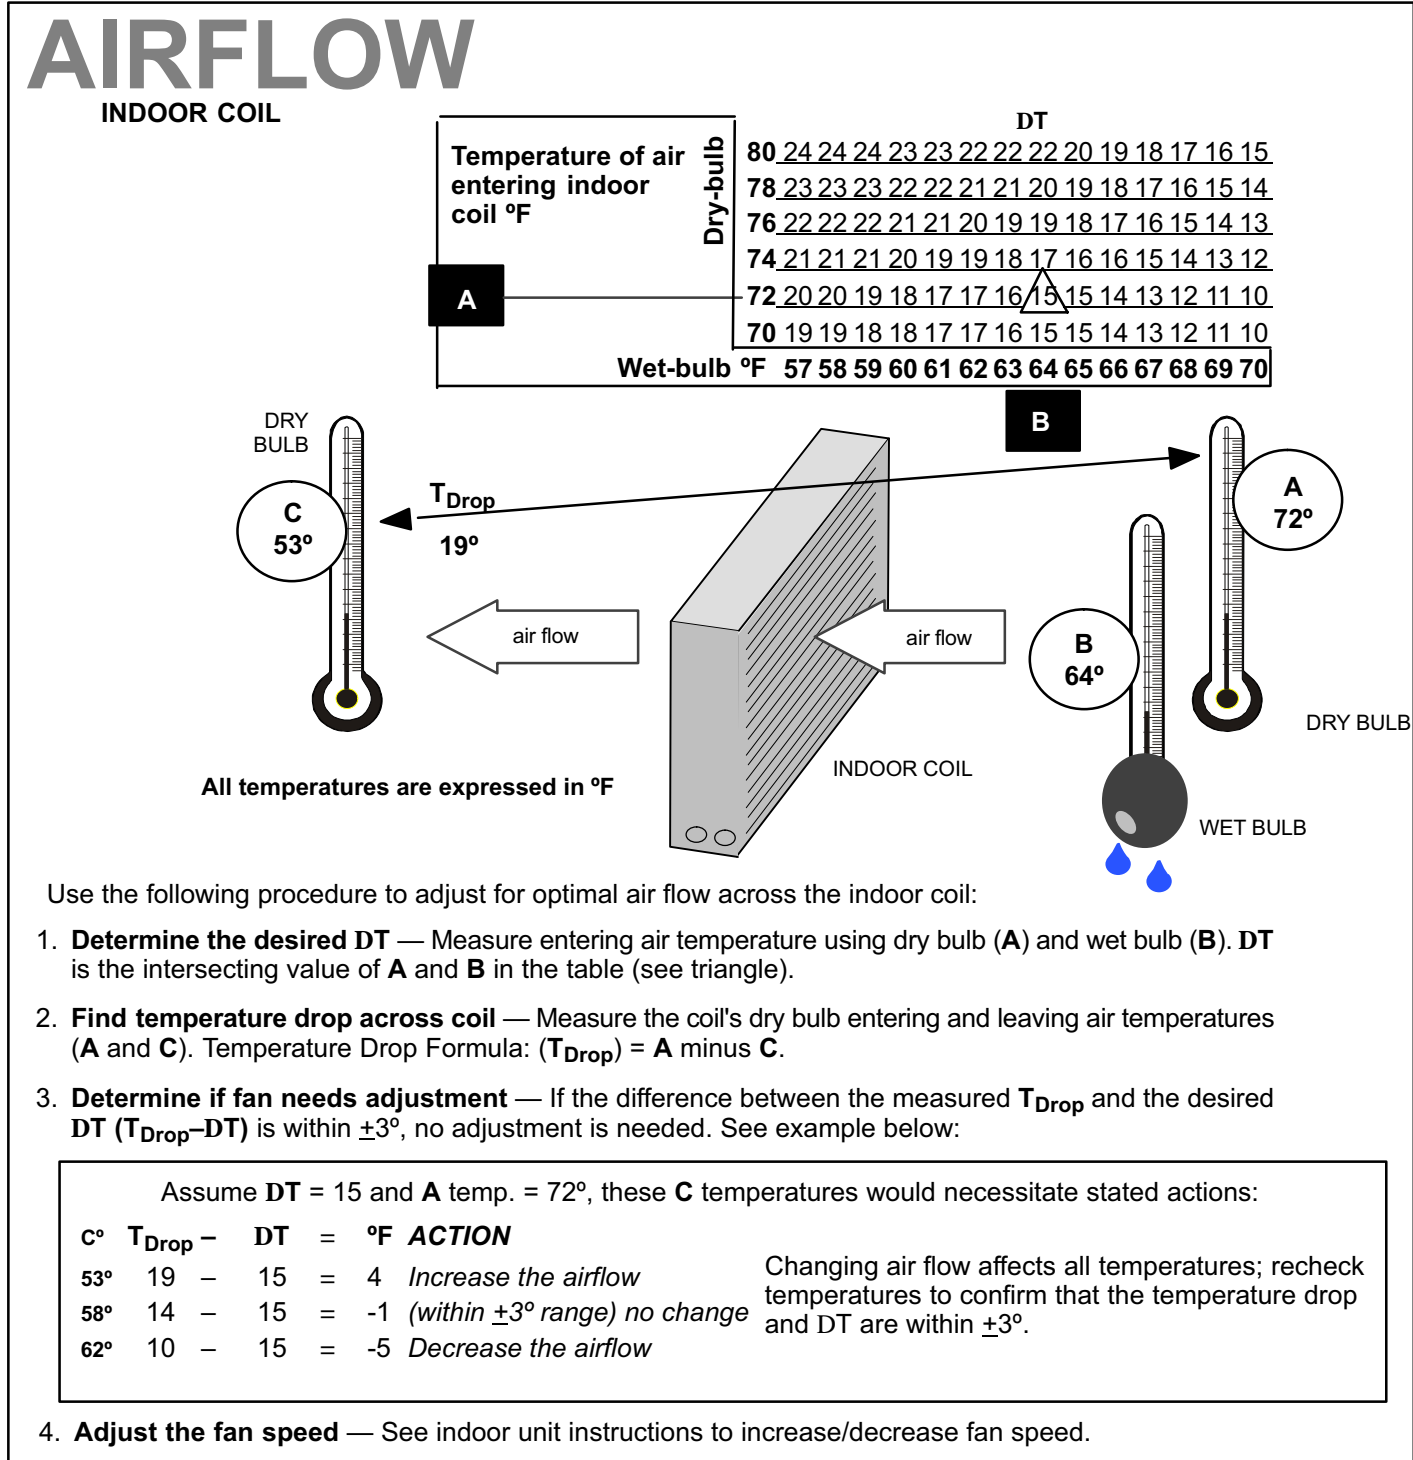

Figure 23. Checking Indoor Airflow over Evaporator Coil using Delta-T Chart
This system uses HFC-410A refrigerant which operates at much higher pressures than HCFC-22. The pre-installed liquid line filter drier is approved for use with HFC-410A only. Do not replace it with components designed for use with HCFC-22. This unit is NOT approved for use with coils which use capillary tubes or fixed orifices as a refrigerant metering device. Check airflow using the Delta-T (DT) process using the illustration in figure 23.